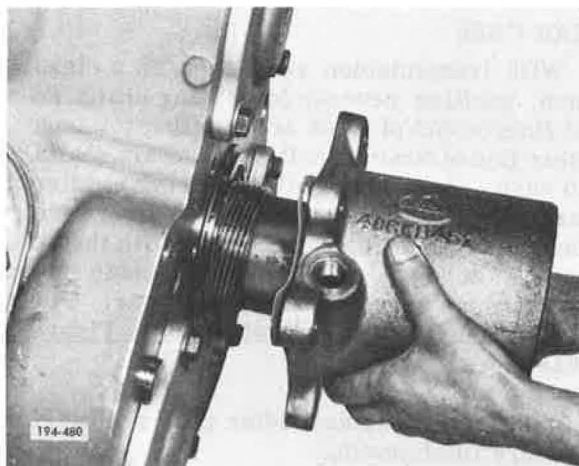

Figure 5-621. Installing Mainshaft Rear Bearing Cover Assembly
10. Apply sealer compound and install mainshaft rear bearing cover gasket and cover assembly. See Figure 5-621. Install cover capscrews and tighten to recommended torque.